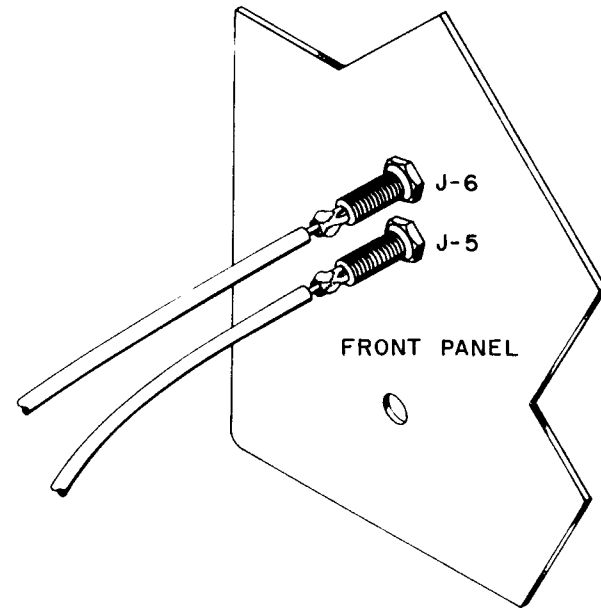

FIGURE 16. PIN JACK MOUNTING
- Two pin jacks. Mount each jack with a nut as shown in Figure 16.